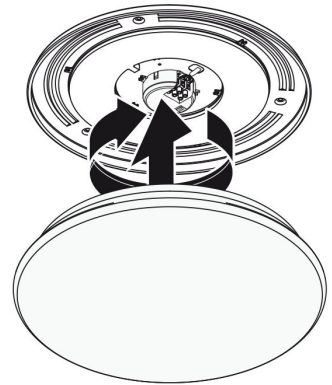

fig. 5
7. **fig. 5:** Put on the dome to the base plate (bayonet locking system).